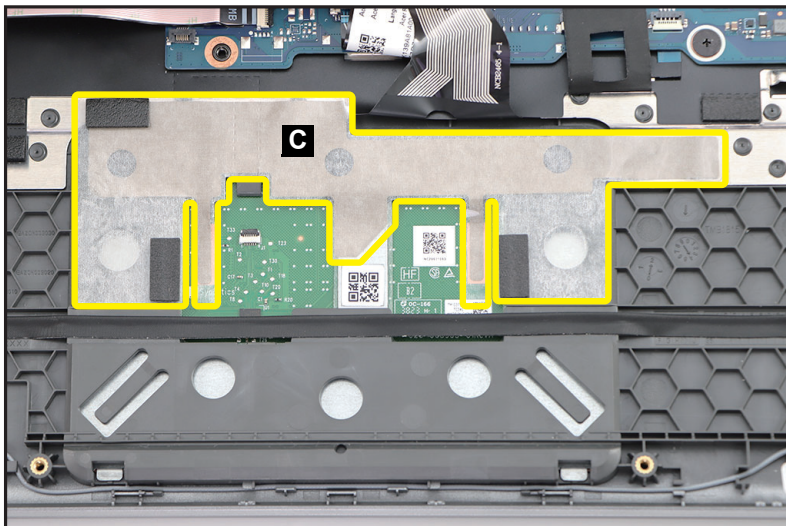

Figure 1-20. Touchpad Module Removal
3. Detach the conductive tape (C) from the touchpad module and top assembly (Figure 1-20).